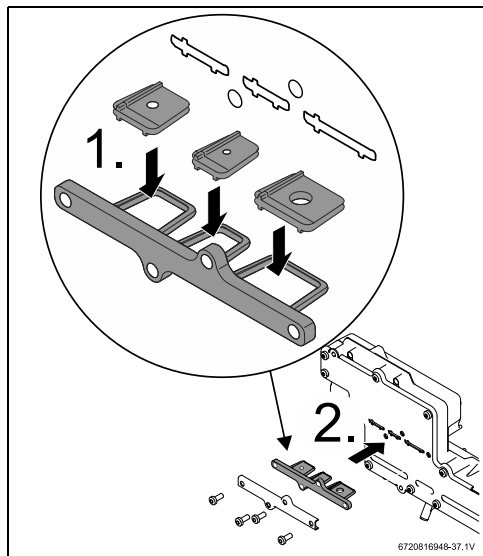

Fig. 49 199kBTU appliance gas conversion kit
- ▶ The 3 restrictor plates should be pre-assembled onto their tray, but if loose in box, follow installation instructions, as shown in Figs. 49 and 50 [1].
- ▶ Insert the LP conversion plate in the appropriate location shown in Figs. 49 and 50 [2].
- All three flow restrictors and seal must be assembled according to the Fig. 49, to assure correct appliance performance.